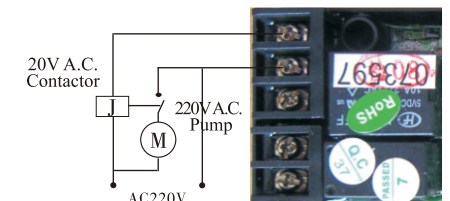

Figure 3-8 Wiring of Booster Pump on Inlet
**Instruction:** If inlet water pressure is less than 0.2MPa, which makes backwash or brine drawing difficult, a booster pump is suggested to be installed on inlet. Set Control mode as b-01. When system in regeneration cycle, booster pump opens, the wiring refers to Figure 3-7. If the booster pump current is bigger than 5A, system need to install an contactor, the wiring refers to Figure 3-8.